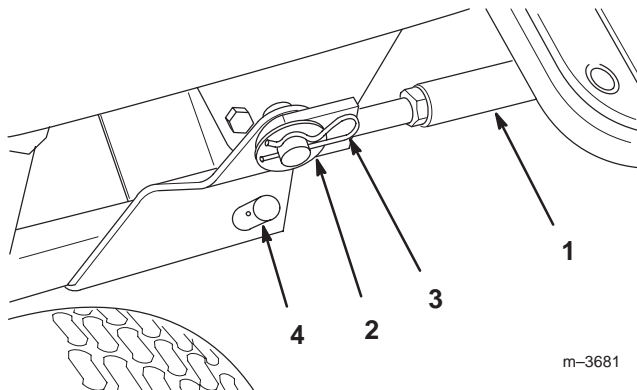

Figure 28
- Remove the crank support by removing the hairpin cotter and clevis pin at its base (Fig. 28), then lifting the support from its mounting post.
- Remove the support braces from the frame rods protruding from the mid Attach-A-Matic™ hitch by removing the hairpin cottes and washers (Fig. 28).